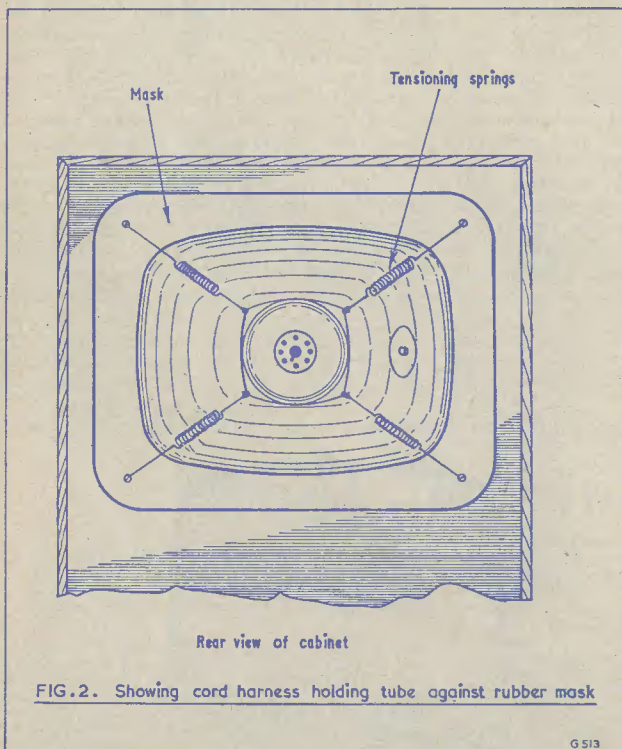

FIG. 2. Showing cord harness holding tube against rubber mask
An alternative assembly is shown in Fig. 2, which is used in receivers where the tube is fixed permanently in the cabinet and the deflection and focusing components are
**Component List.**— $C_{18}$ , it should be noted, variable.  $C_{28}$ , shown in Fig. 13 (a) is a 2,200pF silvered mica capacitor and was omitted from the circuit diagram Fig. 2 (Part I, November issue) and also from the component list given.  $C_{29}$ , also omitted, but shown in Fig. 16, is rated at 0.5 $\mu$ F, 350V.